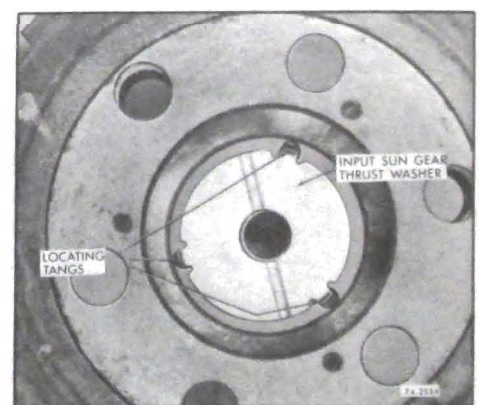

Figure 74-266
6. Install the input sun gear thrust washer with the oil groove facing input sun gear. See Figure 74-266.